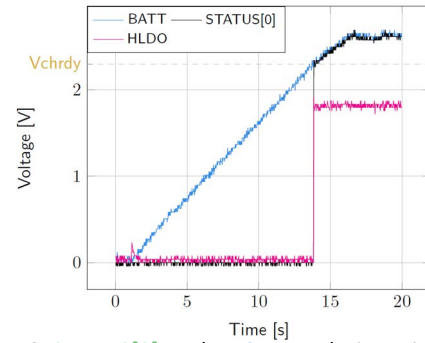

Figure 3: **STATUS[0]** and **HVOUT** evolution with **BATT**
- **BATT**: Voltage rises as the power provided by the source is transferred to the storage element (see Figure 3).
- **HVOUT/LVOUT**: Regulated when voltage on **BATT** first rises above  $V_{CHRDY}$  (see Figure 3).
- **STATUS[0]**: Asserted when the LDOs are ready to be enabled (refer to the AEM30940 datasheet “Normal Mode” section) (see Figure 3).